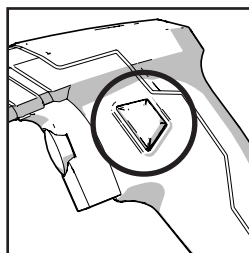

Fig. 6
- Press and hold the lock-on switch. **(Fig. 6)**